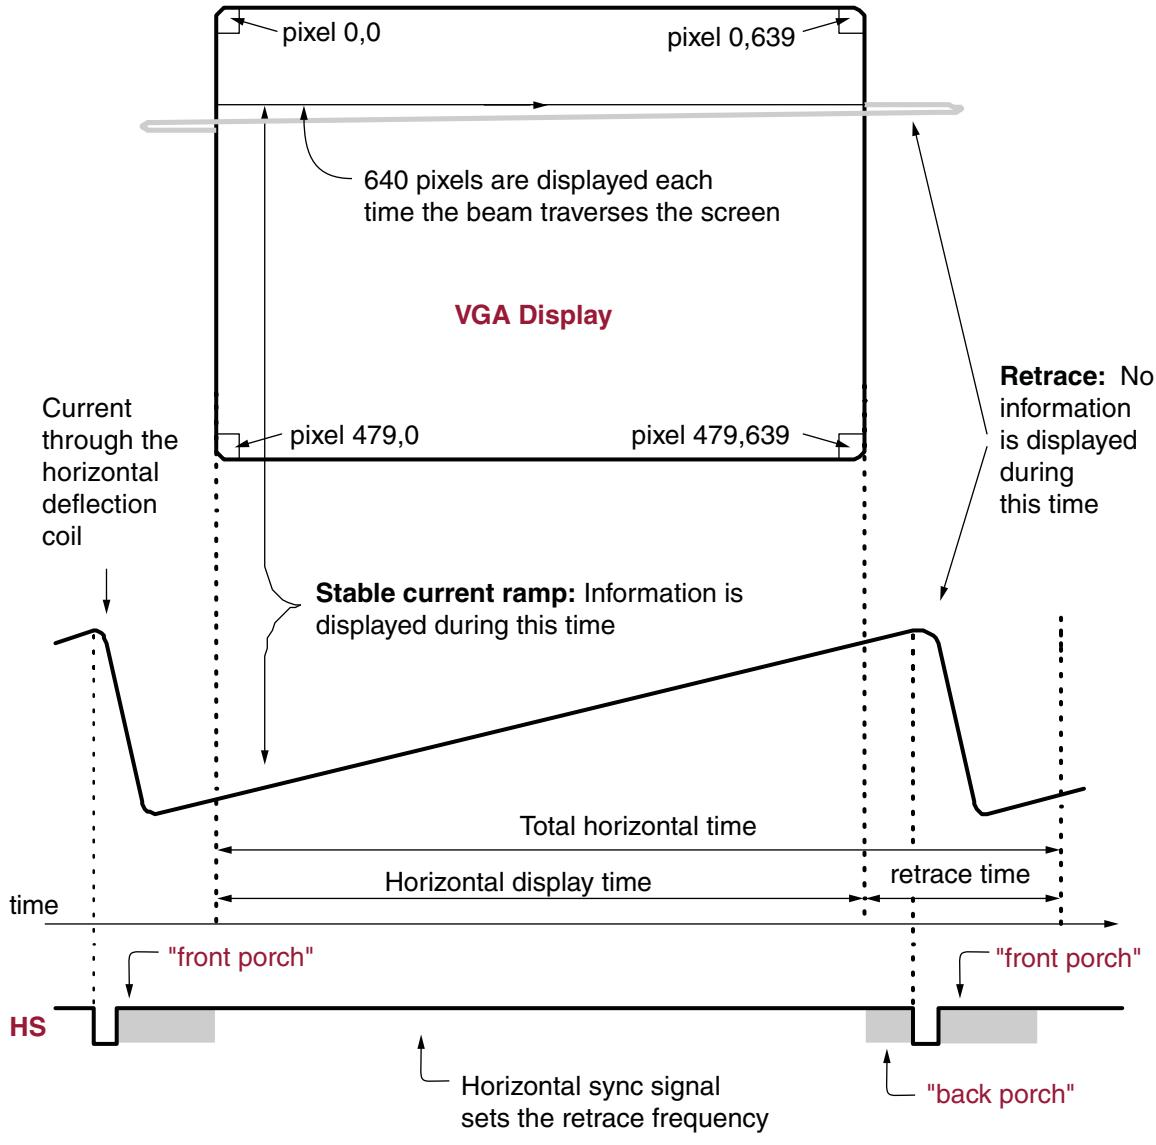

Figure 6-2: CRT Display Timing Example
Within a CRT display, current waveforms pass through the coils to produce magnetic fields that deflect electron beams to transverse the display surface in a *raster* pattern, horizontally from left to right and vertically from top to bottom. As shown in Figure 6-2, information is only displayed when the beam is moving in the *forward* direction—left to right and top to bottom—and not during the time the beam returns back to the left or top edge of the display. Much of the potential display time is therefore lost in *blanking* periods when the beam is reset and stabilized to begin a new horizontal or vertical display pass.
As shown in Figure 6-2, the VGA controller generates the horizontal sync (HS) and vertical sync (VS) timing signals and coordinates the delivery of video data on each pixel clock. The pixel clock defines the time available to display one pixel of information. The VS signal defines the *refresh* frequency of the display, or the frequency at which all information on the display is redrawn. The minimum refresh frequency is a function of the display's phosphor and electron beam intensity, with practical refresh frequencies in the 60 Hz to 120 Hz range. The number of horizontal lines displayed at a given refresh frequency defines the horizontal *retrace* frequency.